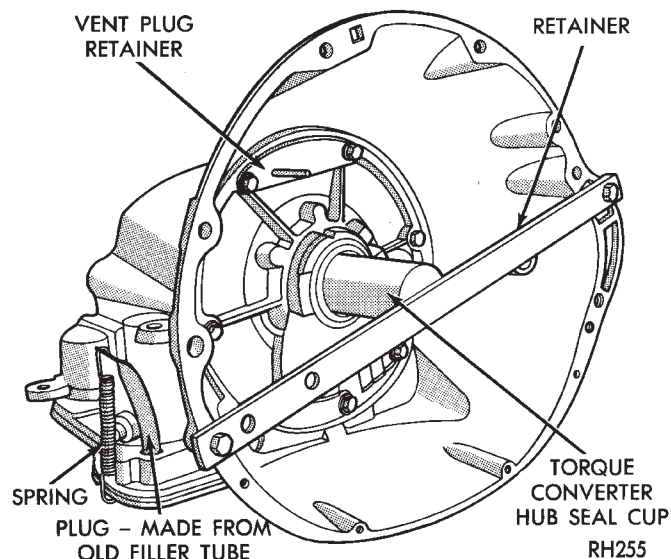

Fig. 13 Vent Plug And Hub Seal Cup Installation
(1) Install vent plug, converter hub seal cup and cup retaining strap (Fig. 13).